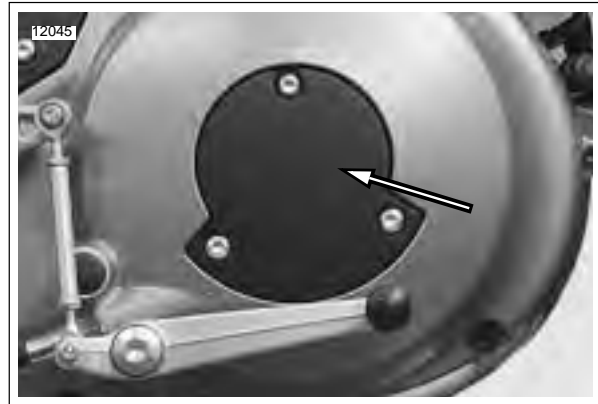
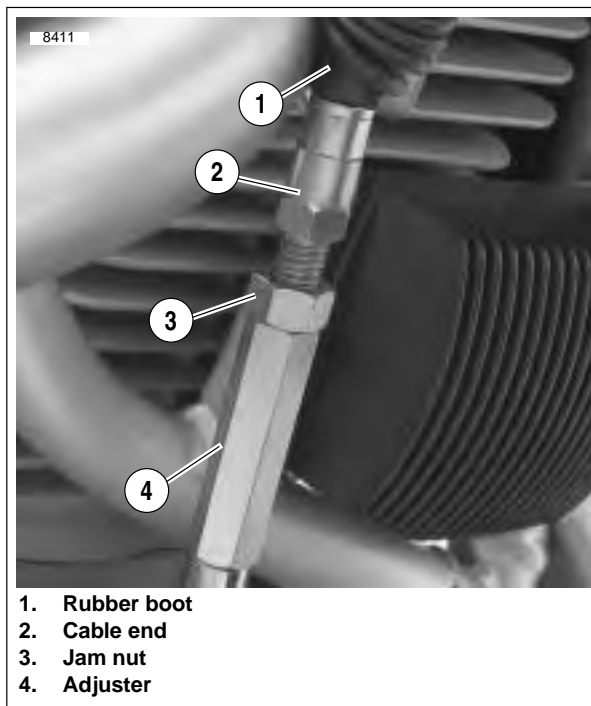

Figure 1-20. Clutch Inspection Cover
Figure 1-23. Clutch Cable Adjuster Mechanism
9. See Figure 1-20. Install clutch inspection cover tightening three fasteners and washers to 84-108 **in-lbs** (10-12 Nm).
2. See Figure 1-23. Slide rubber boot (1) upward to expose adjuster mechanism. Loosen jam nut (3) from adjuster (4). Turn adjuster to shorten cable housing until there is a large amount of free play at clutch hand lever.
3. See Figure 1-20. Remove three fasteners and washers from clutch inspection cover. Remove clutch inspection cover and gasket from primary cover.
- b. See Figure 1-23. Set free play by turning adjuster (4).
- c. Tighten jam nut (3) against adjuster (4).
- d. Slide boot (1) over cable adjuster mechanism.
8. See Figure 1-20. Install clutch inspection cover and **new** gasket using three fasteners and washers and tighten to 84-108 **in-lbs** (10-12 Nm).